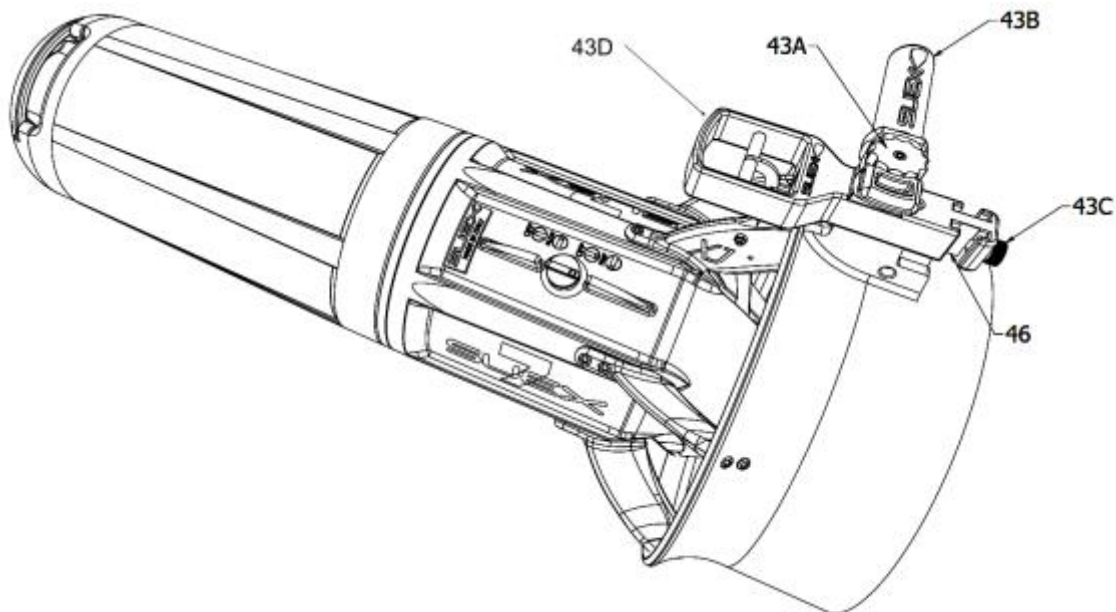

Fig.4 - Revolving handle
In the control device (Fig. 4) we find: the trigger (43D), a handle (43B) a fixing knob (43A), and a relative knob locking screw, an accessory fixing knob (43C), two seats for accessories (46).
As for the use, the handle can be positioned on the right as in the photo (Fig.4) or on the left.